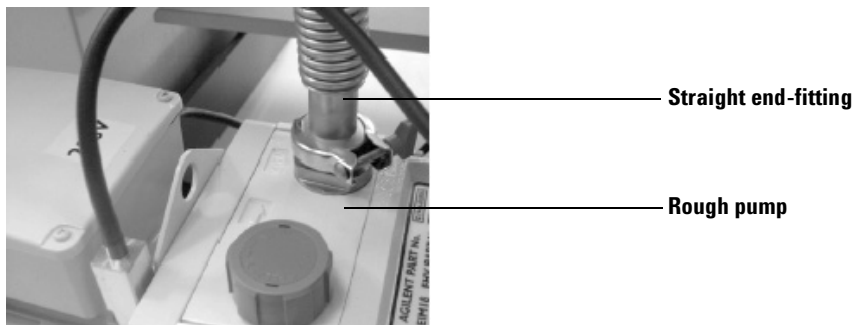

Figure 5 Straight end-fitting to rough pump — correct.
- 3 Reverse the orientation of the stainless-steel vacuum tubing so that its curved end-fitting connects inside the LC/MS instrument and its straight end-fitting connects to the rough pump (Figure 5).